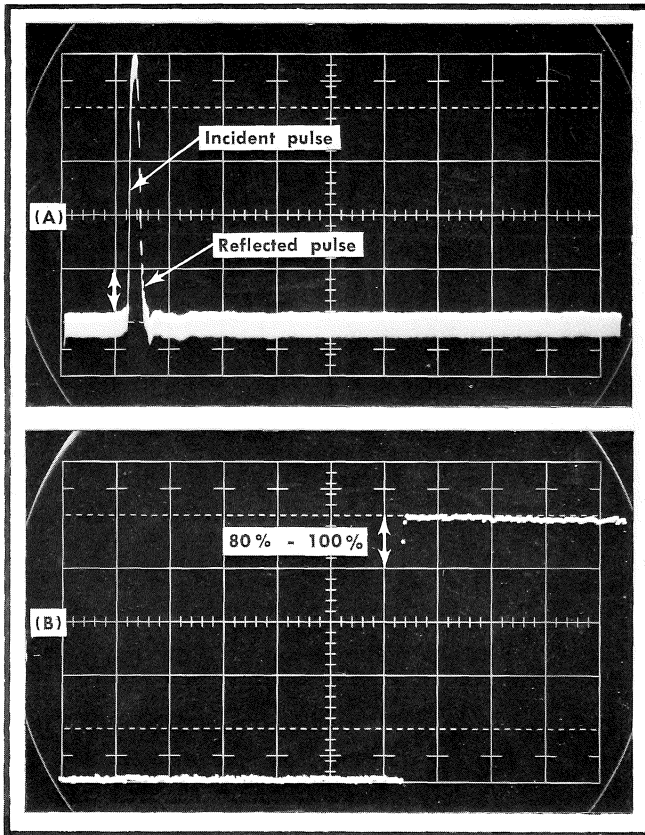

Fig. 7-30. (A) Incident and reflected pulses, and Avalanche Volts adjustment and (B) Test Oscilloscope display for Dot Response adjustment.
- Position the trace with the Type 1S2 POSITION control to show both the incident and reflected portions of the waveform. See Fig. 7-30.